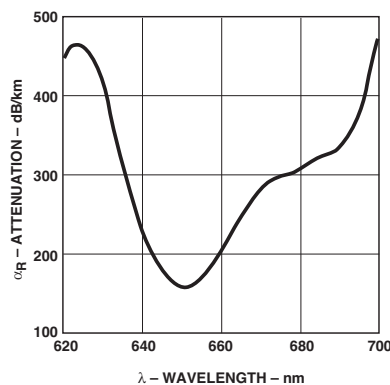

Figure 1. Typical POF attenuation vs. wavelength.
7. Note that  $\alpha_R$  rises at the rate of about 0.0067 dB/°C, where the thermal rise refers to the LED temperature changes above 25°C. Please refer to Figure 1 which shows the typical plastic optical fiber attenuation versus wavelength at 25°C.